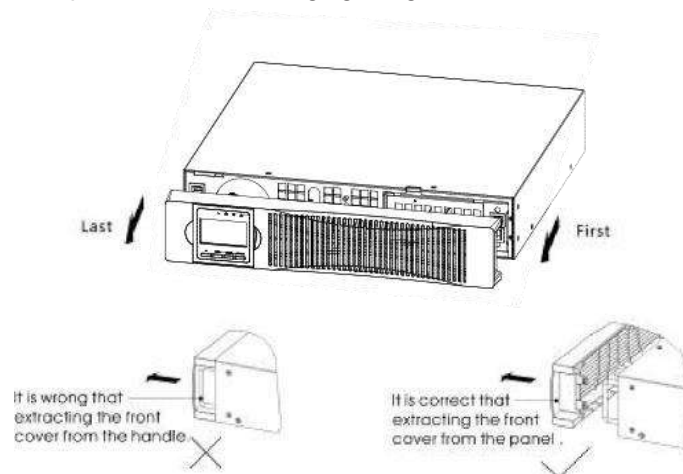

Figure1 Removing the EBP Front Cover
1. Remove the front cover of each EBP (see Figure 1).
Press the panel side with LCD display, hold the other side and quickly extract it, then extract the other side with display. (see Fig. 1)